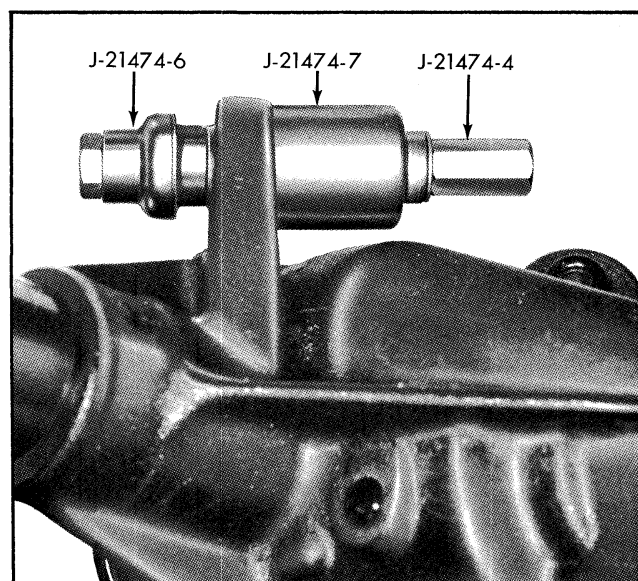

Fig. 3-31 Installing Rear Upper Control Arm Rear Bushing
3. Replace using components of tool J-21474 as shown in Fig. 3-31. Tighten pivot bolt to 75-100 lb. ft. torque.